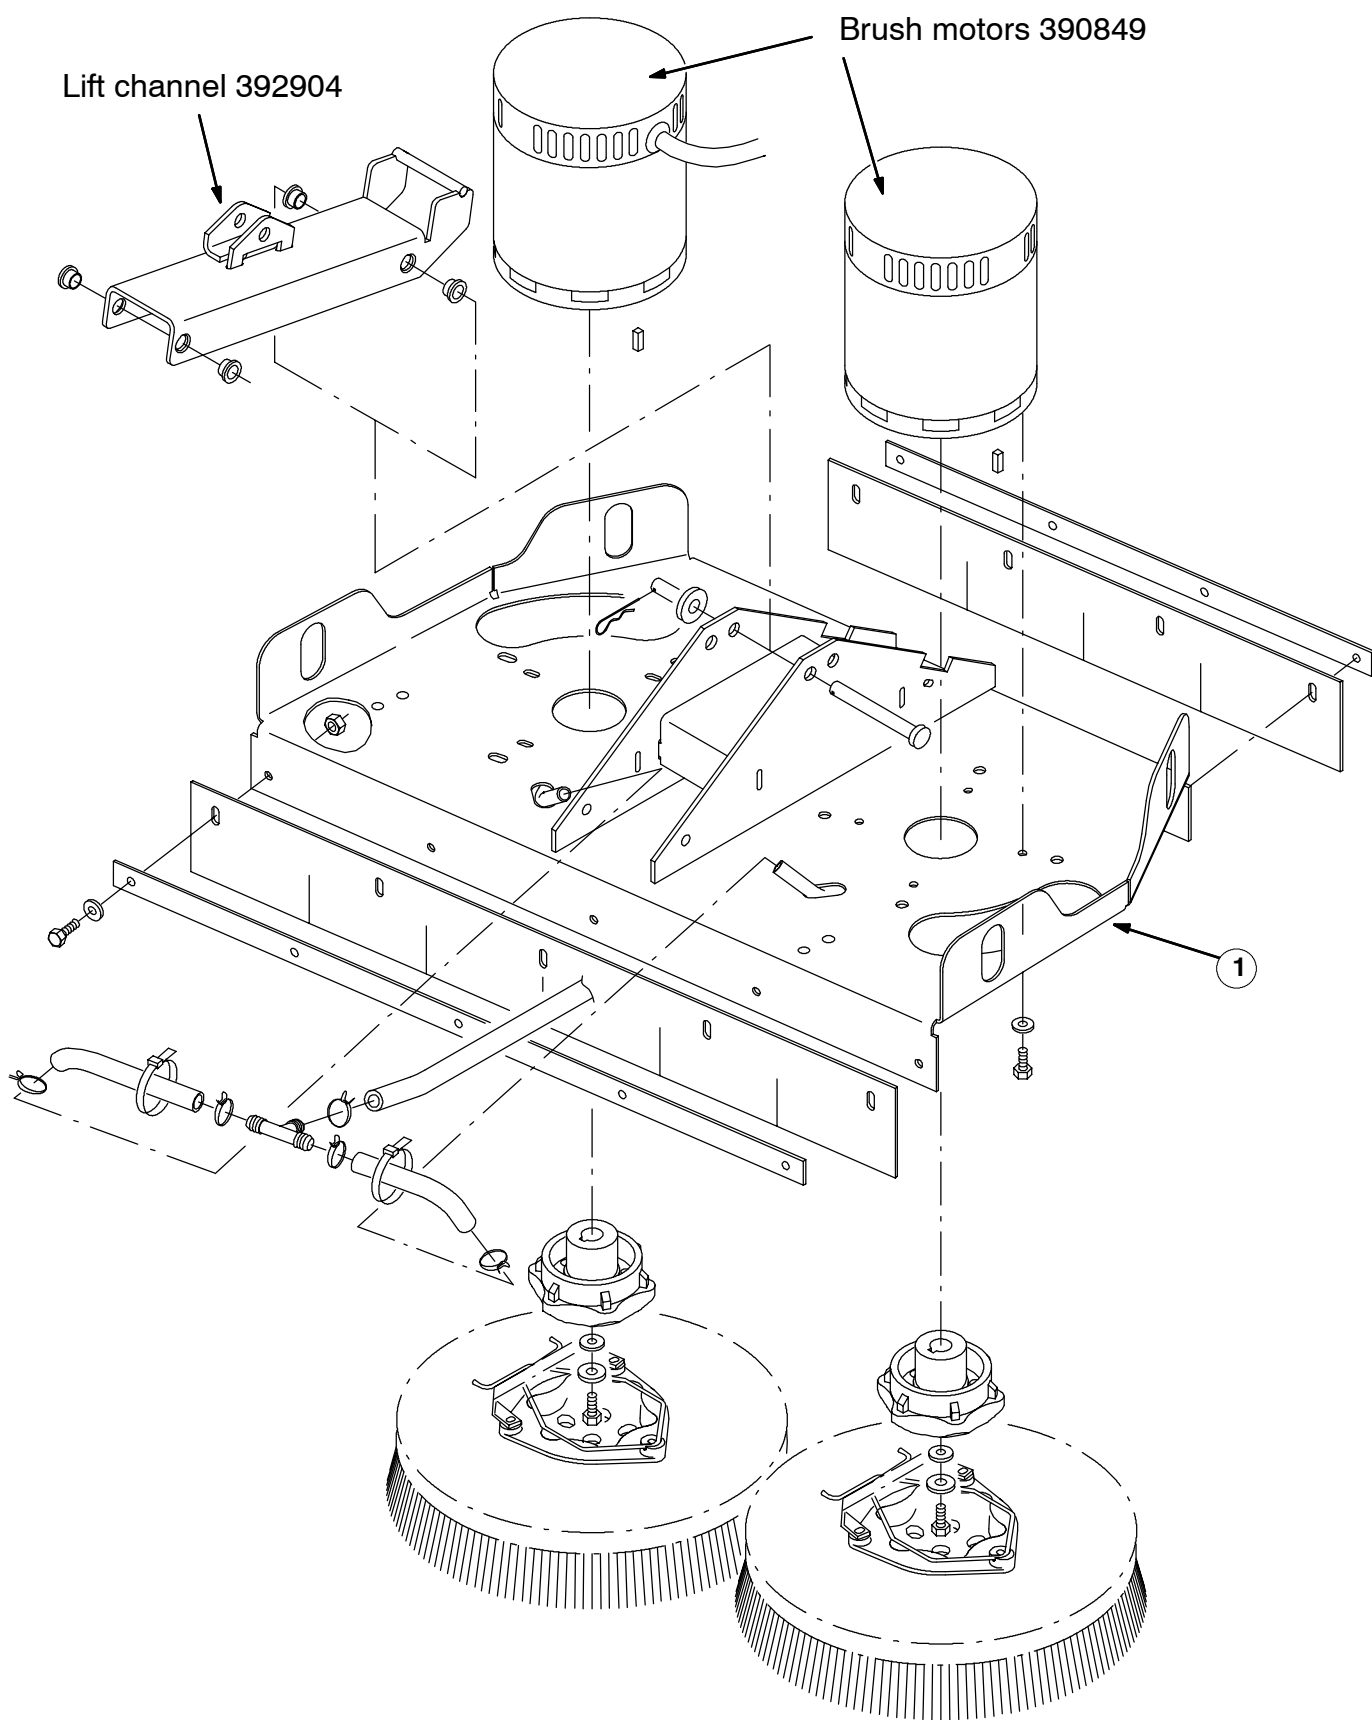

FIG. 1 - Disk Scrub Head Drive Motor Group, 700 mm (28 in)
(Refer to FIG. 1 thru 4)
3. Disconnect the scrub head actuator lift tool from the scrub head. Retain the clevis pin and cotter pin for reassembly. (Refer to FIG. 1 and 2)
(Refer to FIG. 1, 2 and 3)